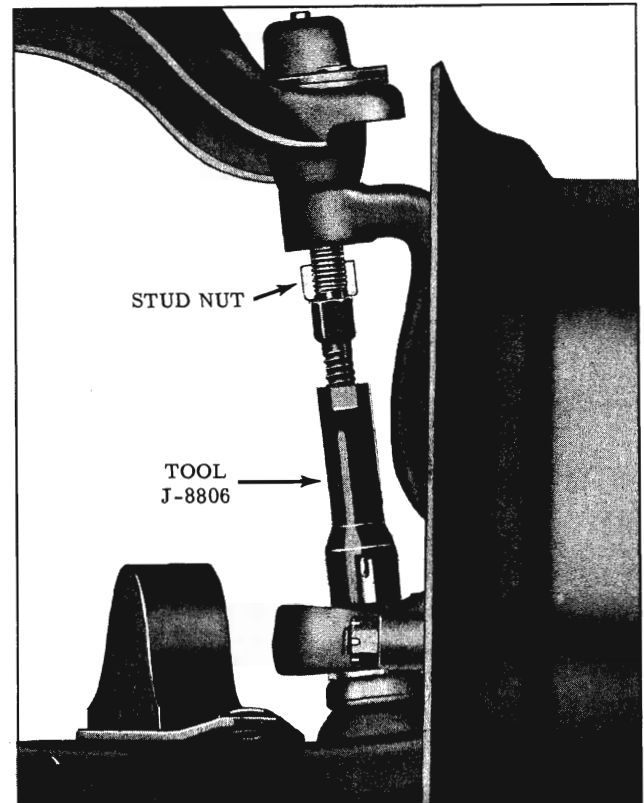

Fig. 5-10. Loosening Upper Ball Joint
- b. Loosen the upper ball joint nut and install Tool J-8806 as shown in Fig. 5-10.
2. Remove the temporary support from the hub and drum, then connect ball joint to steering knuckle. Torque nut 70 ft. lbs. (minimum) and install cotter pin. Tighten nut further, if necessary, to install cotter pin. Attach ground strap to control arm. (Fig. 5-10)